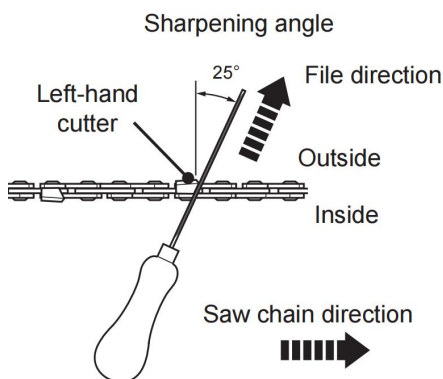

Fig. 74
5. File at an angle perpendicular to the bar, and at an angle of 25° to the direction of travel (Fig. 74).